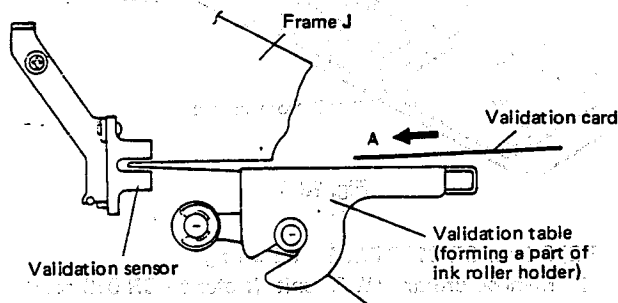

Fig. 18-6 Validation sensor
- ① The validation sensor unit is to be mounted at the inner most part (Frame J side) of the printer frame as shown in Fig. 18-1 and Fig. 18-6.